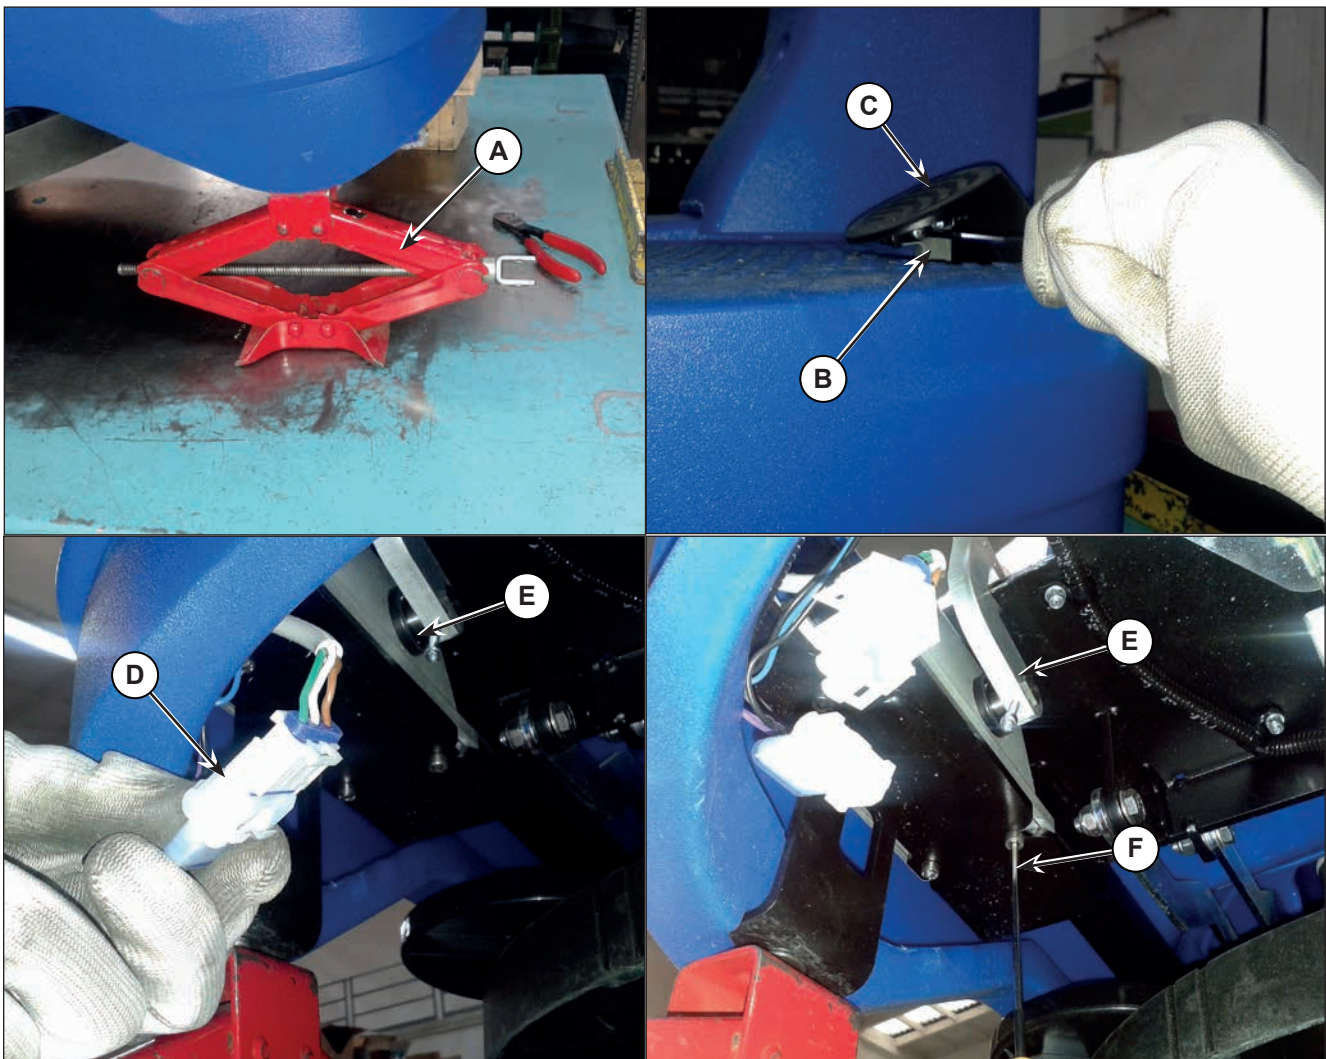

Figure 6:
3. Lift the machine as shown (A, Figure 6).
4. Remove the 2 screws (B) and disassemble the accelerator pedal (C).
5. Under the machine disconnect the connection (D) of the drive pedal potentiometer (E).
6. Remove the 3 screws (F), then disassemble the drive pedal potentiometer (E).